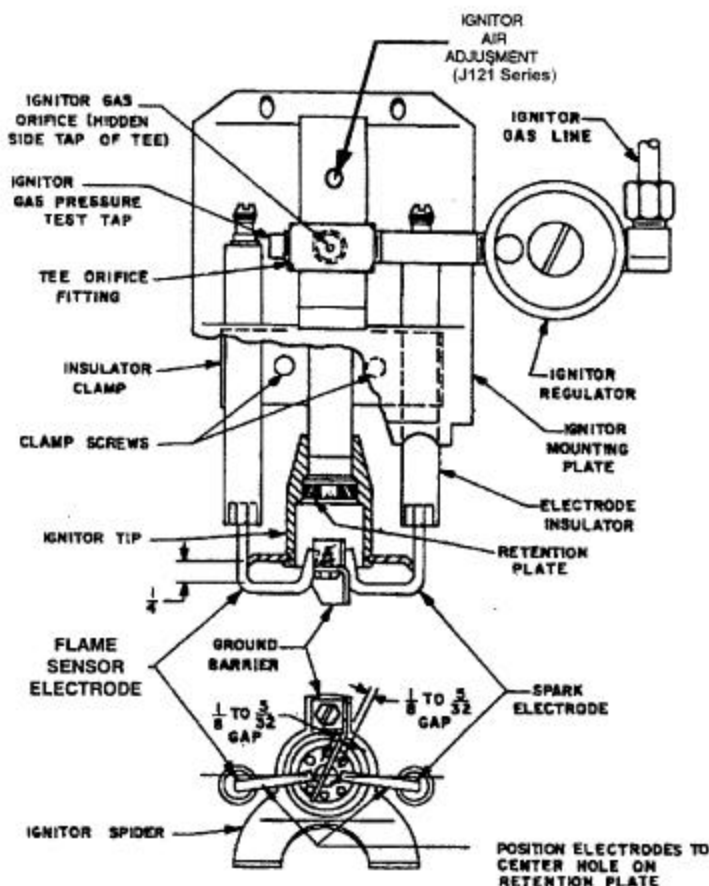

FIGURE 5 Ignitor and Flame Sensor Assembly
- ☐ When the ignitor gas pressure is in the proper range (see Table 3) and the electrodes are adjusted to the dimensions shown in Figure 5, any ignition problems are usually caused by lint, dust, corrosion, cracked electrode insulators, foreign matter in the blast tube or deterioration of ignitor ports in Retention Plate.
- ☐ Ignitor trouble will be evidenced by failure of main burner ignition. It may cause frequent Electronic Control lockout. Check for dirt in the ignitor air and mixture passageways and check for obstructions in the ignitor ports. Also check electrode adjustments (see Figure 5). Replace any severely burned parts.
- ☐ Clean the Ignitor Gas Orifice in Tee Orifice Fitting (see Figure 5) and check that the orifice size is correct per Table 3.
- ☐ Check that the electrode ends are positioned and that the gap between the end of each electrode and the ground barrier is spaced per Figure 5.
☐ The Air adjustment screw is located under a plug button in the Ignitor Block about 1/2" behind the Ignitor Orifice (refer to Figure 5). A 5/64 (.078) inch hexagon wrench is required for adjustment. Pry up the plug button to expose air adjustment screw. Adjust the screw up or down to find the best Flame Signal or until repeatable and stable light-offs are achieved. Ignitor airflow is decreased as the screw is turned clockwise, and increased as it is turned counter-clockwise. Generally 3 to 5 turns up from full closed (screw bottomed out) works best.
- c. Check for spark between Spark Electrode and ground barrier. See Figure 5. If ignitor tip is not visible with burner mounted, but spark can be heard, continue with Step G4. If spark cannot be heard, refer to Section VIII IGNITOR AND REGULATOR ASSEMBLY for spark test.